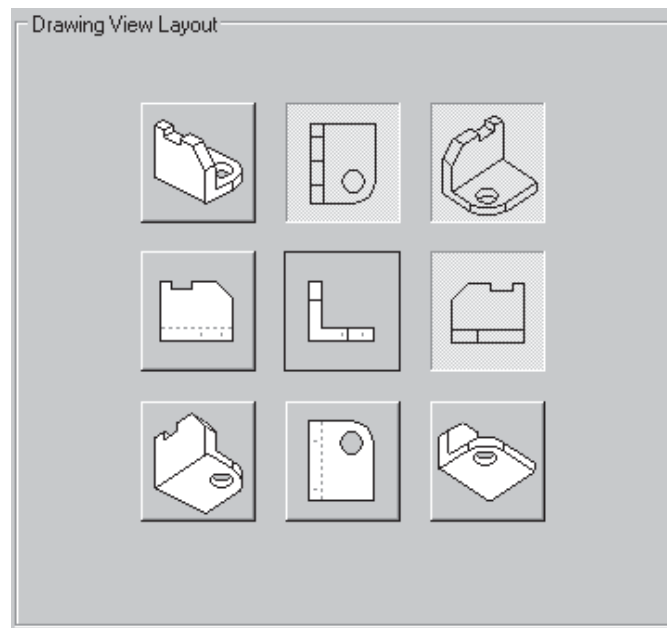

Figure 11-35 *Drawing View Layout area of the Drawing View Creation Wizard*
5. Select the views shown in Figure 11-35 from the **Drawing View Layout** page and then choose the **Finish** button.